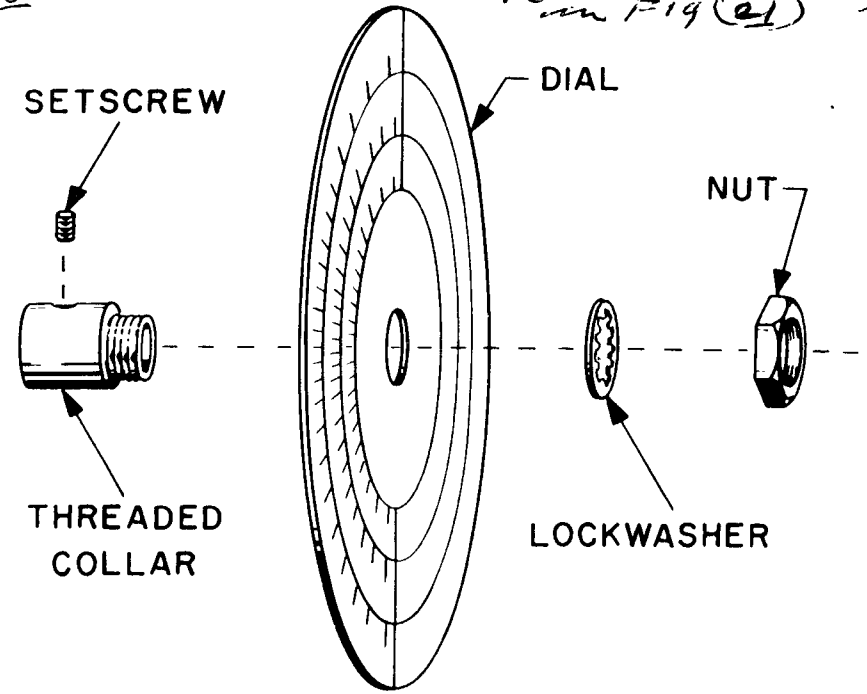

FIGURE 22. DIAL SCALE ASSEMBLY
- Dial, threaded collar, setscrew, 1/2" lockwasher and nut. Assemble as shown in Figure 22.